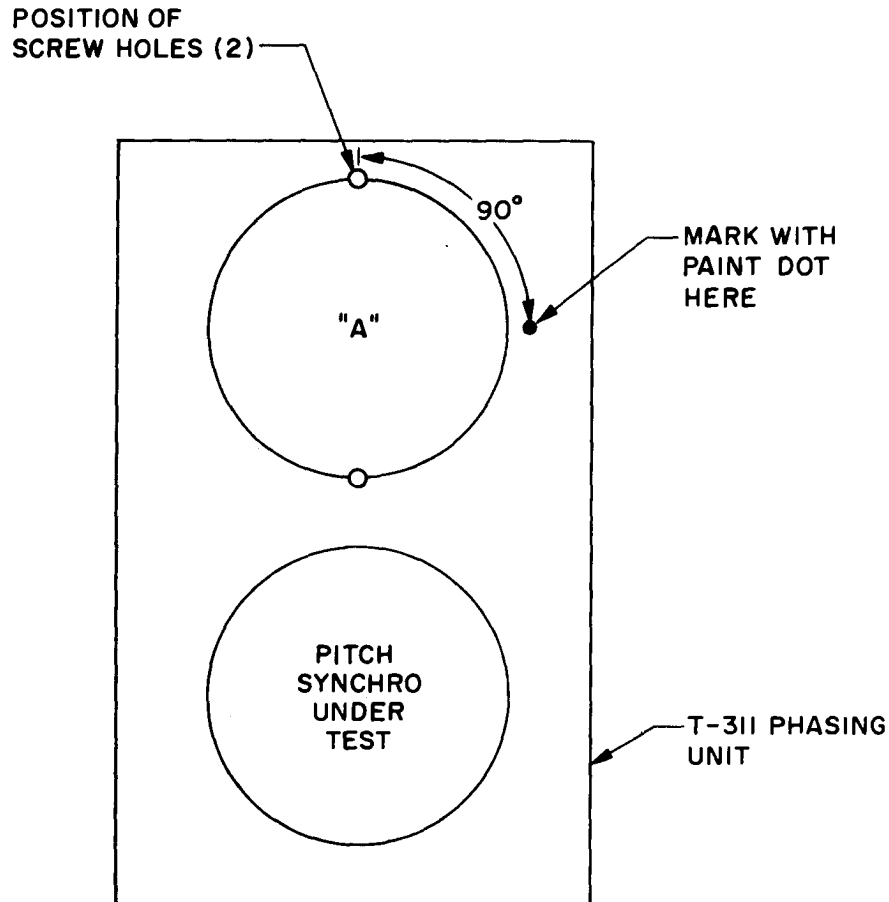

Figure 2-11. Pitch Synchro Null Adjustment.
(1) Connect test fixture TE244 (with T-311 phasing unit) to 115-vac, 400-cps source. Set switch S1 to off position.
(2) Unsolder the leads of the pitch synchro from the indicator. Connect the leads to the test-fixture terminals. Make certain that each lead is connected to the terminal of the same color (red lead to terminal marked RED, etc.).
(3) Connect AC Voltmeter (TS-352 B/U) across terminals COM and M1 on the test fixture,
(4) On the test fixture, set switch S1 to the on position,
(5) Rotate the pitch synchro for a minimum null on the voltmeter, while holding 'A' as shown in figure 2-11.
(6) Connect the voltmeter to terminals COM and M2 and observe the voltmeter indication.
(7) On the test fixture, press switch S2 and observe that the voltmeter indication decreases.
(8) If the indication increases, rotate the pitch synchro 180 degrees and repeat steps 3 through 7. Then place a small dot of paint as shown in figure 2-11.
(9) Remove the pitch synchro from the test fixture and resolder to the indicator.